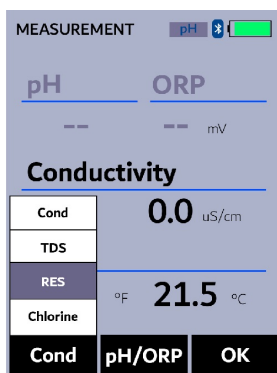

Figure 12. Highlight RES (resistivity) measurement
2. Press **Cond** (  ) as needed to highlight **RES** in the selection menu (Figure 12).